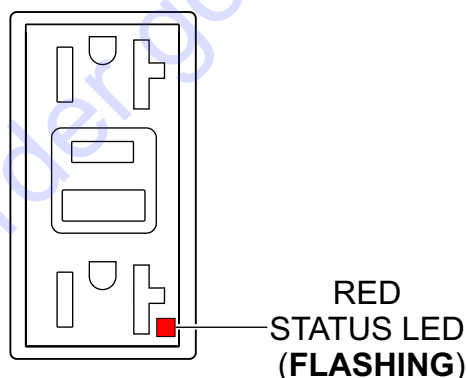

Figure 77. GFCI Receptacle (RED Flashing LED)
- If the status LED (Figure 77) is **flashing (RED)**, **DO NOT** use the GFCI receptacle and replace it immediately.